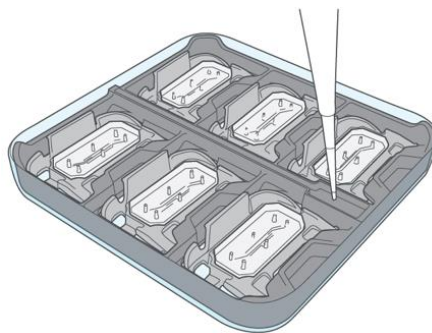

Figure 4. Fill central reservoir of Chip Cradle with 0.75 mL of DPBS
8. To prevent evaporation during incubation, fill central reservoir with 0.75 mL of DPBS (Figure 4) and place lid onto 120 mm square dish and incubate overnight at 37°C and 5% CO2.